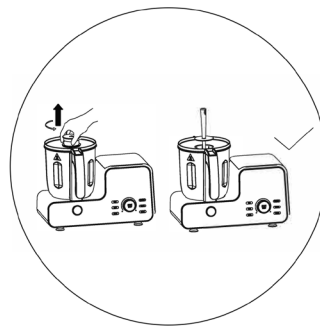

Fig.2
4. DO NOT have the food rake stretch into the mixing cup, otherwise, the rake would damage the blade and motor and the splashing or short circuit occurred would cause injury accident or property loss, and the proper method is to open the measuring cup in the middle of the cup lid and then have the rake stretch into the mixing cup through the cup hole. (See Figure 2)